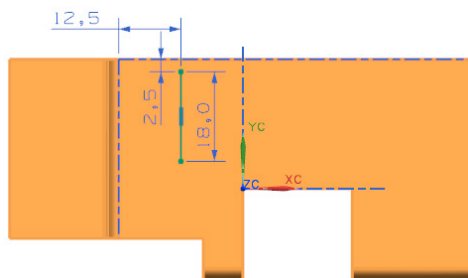

Figure 14-117 Dimensions to position the louver
3. Draw the profile of the louver and add the required dimensions, as shown in Figure 14-117. Exit the sketching environment; the preview of the louver is displayed.